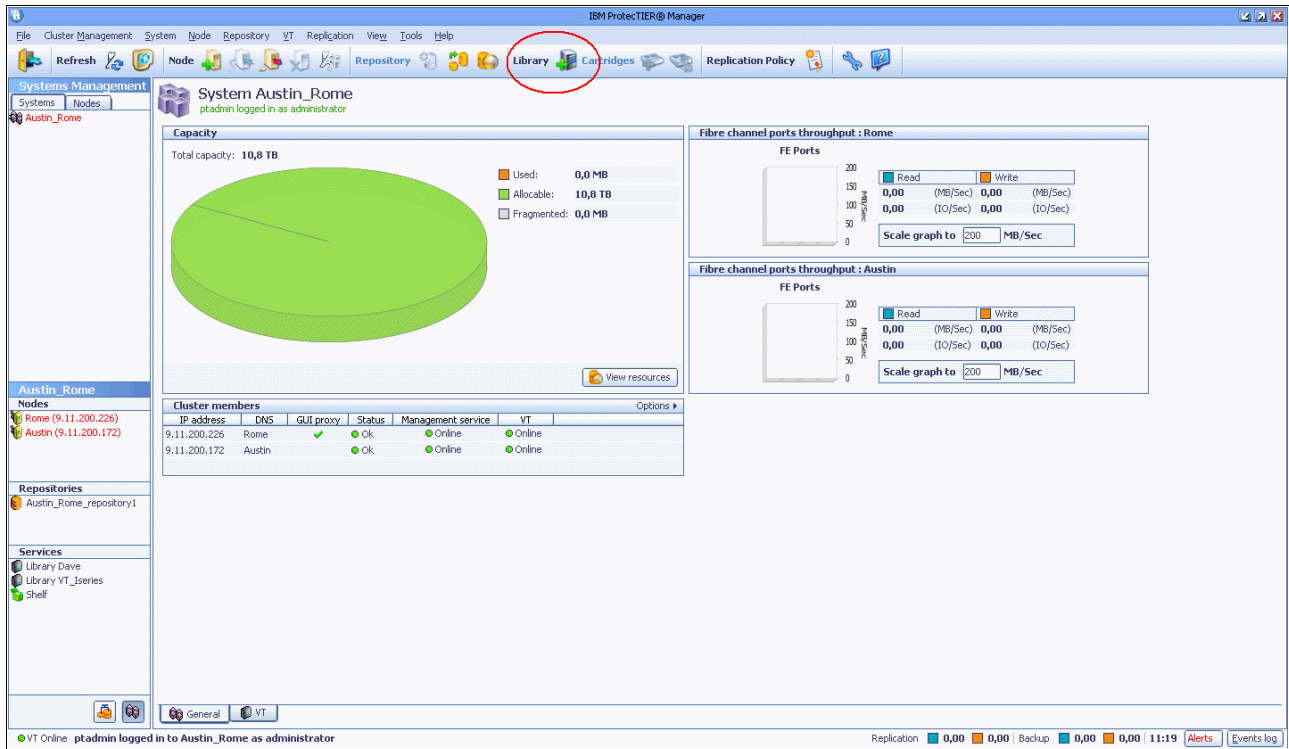

Figure 6-29 Add/create library
1. Log in to the ProtecTIER GUI. On the toolbar, click **Library** to start the Create New Library wizard, as shown in Figure 6-29.